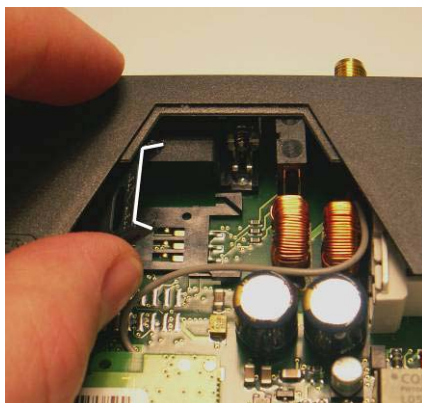

figure 2-7
8. In figure 2-7, the compartment into which you can insert the SIM card is emphasized in white.